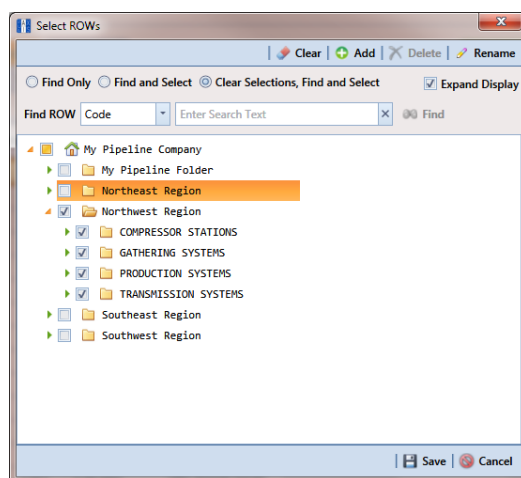

Figure 3-1. Select ROWs
The hierarchy is an organizational structure of one or more folders. Folders are organized in a tree structure based on the number of hierarchy levels set up in the system. The top level of the hierarchy is the root level that identifies your company's name. All hierarchy folders are added below the root level. The lowest level of the hierarchy includes a folder with pipelines added in the system (Figure 3-1, page 88).
- 1 Click **File > Select ROWs** to open the *Select ROWs* window (Figure 3-1).